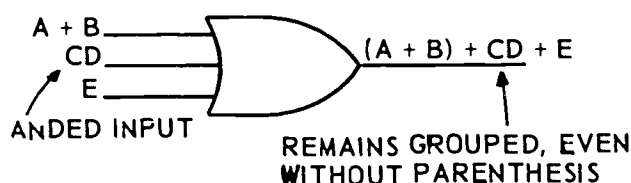

Figure 1-65. Parentheses not required for ANDed inputs.
(4) Parentheses are used to indicate grouping, except for an ANDed input to an OR or NOT logic symbol (see fig. 1-65).